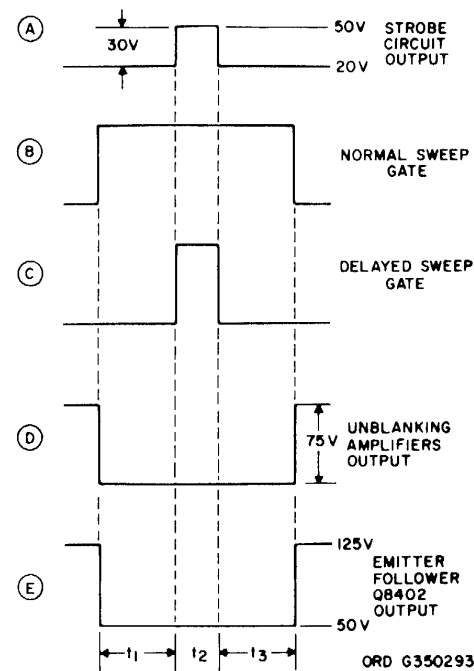

Figure 3-8. Beam gate plate input waveforms (triggered-strobe mode).
(4) Amplifier Q8604, resistor R8621, and capacitor C8611 differentiate the square-wave output of the comparator circuit, and apply it to transformer T8601. Because of the transformer winding configuration, you will notice that the positive pulse, representing the leading edge of the comparator circuit output, when applied to diode CR8105, becomes a negative pulse. Passing through the diode, the negative pulse triggers delayed-sweep gate multivibrator Q8106, Q8107. The negative gate output of the delayed-sweep gate multivibrator activates the sawtooth generating circuit (V8103, V8104), which is identical to the one described in paragraph 3-13a through d.
(5) Before continuing with this description, let's cover the method of balancing both the normal- and delayed- sweep circuits to produce identical sweep rates. Notice that the negative gates from the normal- and delayed- sweep gate multivibrators, that remove the clamping voltage from the grids of the Miller integrators via the reverse-biased disconnect diodes, also remove the clamping voltage from the Miller integrator cathodes by reverse-biasing diodes CR8213 and CR8109 (zones A10 and D10). With both sweep circuits activated, SWP RATE BAL resistor R8175 (connecting both Miller integrator cathode circuits) (zone C11) is adjusted so the conduction through the tubes (V8203, V8103) is approximately the same. You make this adjustment so that both the normal and delayed sweep circuits produce the same sweep rates at identical settings of the TIME/DIV switch.
(6) Continuing with the description of the triggered-strobe mode, notice that only the normal sawtooth generator output goes to the horizontal deflection amplifier circuit. In order to obtain the strobe effect, a portion of the displayed signal must appear narrower, and brighter. This is accomplished by setting the DELAYED SWEEP TIME DIV switch to a shorter time period than the setting on the normal sweep TIME/DIV switch.
(7) The positive gate output of the delayed-sweep gate multivibrator goes to strobe circuit Q8001, Q8002 and to the beam gate circuit (par. 3-13f). Amplifier Q8001 (zone C14) inverts the positive gate and applies it to the amplifier Q8002. Here, the gate is amplified and again inverted. The resultant positive gate (A, fig. 3-8), having a 30-volt amplitude, is applied to the beam gate plate (pin 13). (During the normal sweep mode this beam gate plate had a constant 50-volt potential
(8) The positive gates from the normal-sweep gate multivibrator and delayed-sweep gate multivibrator (B and C, fig. 3-8) are applied to unblanking (cascode) amplifiers Q8404 and Q8405 (zones C13, C14). The outputs of these two amplifiers are combined, and applied to unblanking amplifier Q8403. The resultant negative-going output of the unblanking amplifiers, (D, fig. 3-8) having an overall 75-volt amplitude, is applied to emitter follower Q8402. The output from emitter follower Q8402 is applied to the beam gate plate (pin 6) and is shown by waveform E of figure 3-8.
(9) Referring to figure 3-8, you see that during the interval represented by t_1 , 50 volts is applied to the beam gate plate (pin 6). The other beam gate plate (pin 13) receives the output of strobe circuit, which during this interval generates a constant voltage (approximately 20 volts) because the delayed-sweep gate multivibrator hasn't been activated yet. Now the potential difference between the plates (approximately 30 volts) is such, that the electron beam is deflected by an amount that allows only a portion of it to pass through the aperture of the shield. This reduces the brightness of the CRT display.
(10) During the interval represented by t_2 , both deflection plates receive approximately the same potential (50 volts). It is during this interval that the delayed-sweep gate multivibrator is activated, causing the strobe circuit to produce a positive gate. With both beam gate plates at the same potential, the entire electron beam passes through the aperture, producing a brighter CRT display.
(11) Upon completion of interval t_2 , the delayed sweep gate multivibrator is deactivated. At the same time, the strobe circuit goes back to its initial operating state, producing a constant output (approximately 20 volts). Thus, we see that the potentials applied to the beam gate plates during the intervals represented by t_1 and t_3 are the same. This results in a dimmer CRT display.
(12) Paragraphs (9) through (11) above described conditions where it is assumed the delayed sweep ends some time during the normal sweep interval. However, suppose you adjust the DELAY VERNIER control so that the delayed sweep starts near the end of the normal sweep. Let's further assume that the duration of the delayed sweep extends beyond the end of the normal sweep. Under these conditions, the retrace of the normal sweep would be displayed and appear bright; this is undesirable. To prevent this from happening, the positive-gate output of the normal-sweep gate multivibrator is used to return the delayed-sweep gate multivibrator to its initial operating state.
(13) The positive-gate output of the normal-sweep gate multivibrator (Q8206) is differentiated by RC network C8126, R8157 (zone C9), resulting in positive and negative pulses that are applied to diode CR8107. The diode allows only the negative pulse, representing the trailing edge of the gate, to pass, triggering the delayed-sweep gate multivibrator. Returning to its initial operating state, the delayed-sweep gate multivibrator output deactivates the delayed sawtooth generator, cutting off the delayed sweep. At the same time, the strobe circuit produces a constant output (approximately 20 volts). With the output of emitter follower Q8402 (a level of 125 volts) and the constant output of the strobe circuit applied to the beam gate plates, there is more than the required 75- volt potential difference to prevent the electron beam from passing through the aperture on the shield.
(14) An effect may appear where the bright segment (strobe), instead of being coincident with the trace on the CRT